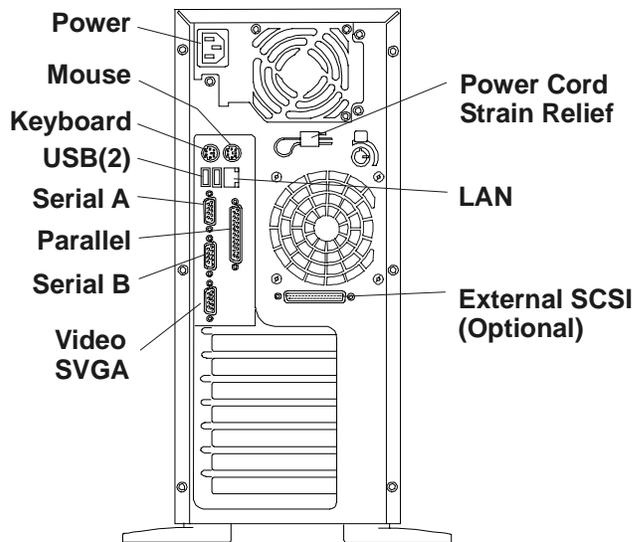

Figure 7-1. Rear Panel Ports
1. Connect the monitor, keyboard, and mouse to the HP NetServer E 800 using the connections provided on the rear of the chassis. See Figure 7-1.
When connecting the HP NetServer to peripherals, use the cable ties and labels that come with the product. See Figure 7-1.